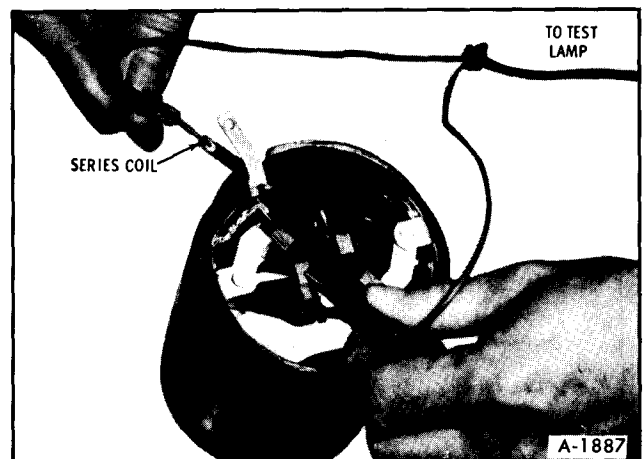

Figure 74—Checking Series Field Coil
c. Using a test lamp, place one lead on the series coil terminal and the other lead on the insulated brush. (figure 74) If the lamp fails to light, the series coil is open and will require repair or replacement.